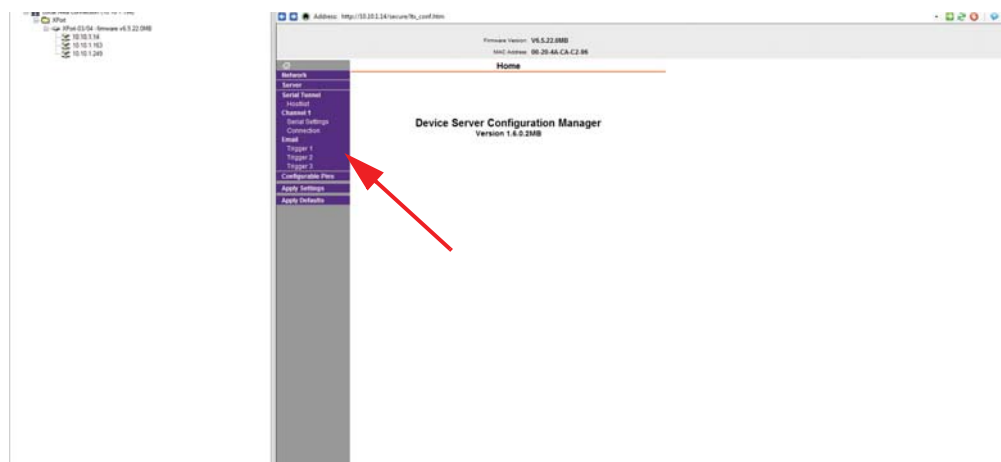

Figure 4-7 Device Server Configuration Manager
3. The **Device Server Configuration Manager** will open as shown in Figure 4-7.